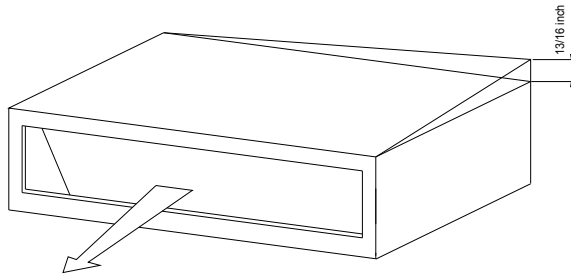

Fig. 4.8 Top Surface Inclination Degree
(2) As shown in Fig. 4.8, the rear part of indoor unit is slightly lower than its front part (by 0~13/64 in.) so as to facilitate drainage.
(3) Tighten the suspension nut upon completion of adjustment. It's essential to apply thread locking agent to avoid nut looseness.